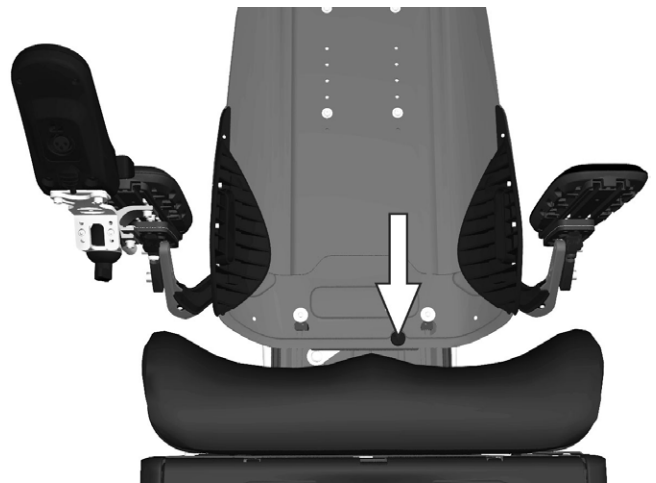

Figure 192. The lower backrest plate is secured by means of a knob.
2. Secure the position of the plate by fitting the knob. See fig. 192.